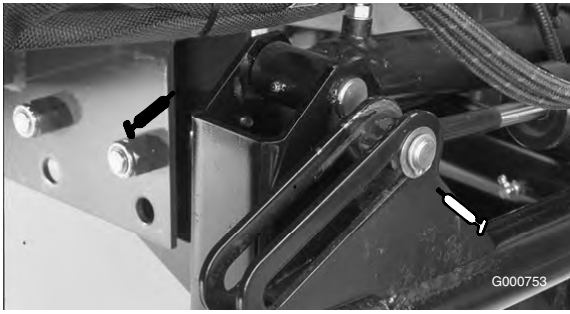
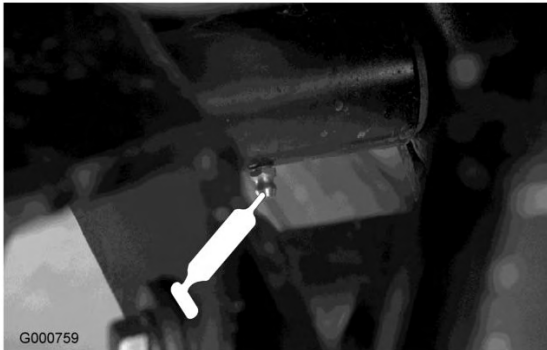

Figure 45
Figure 46
- Front lift cylinders (3) (Figure 45 and Figure 46)